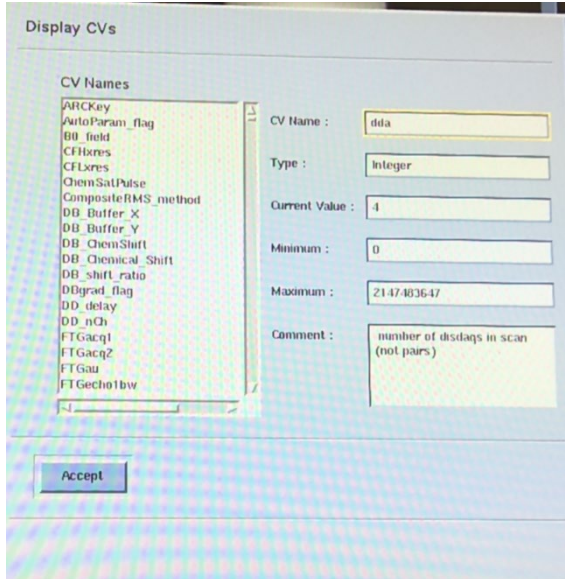

Figure 38. Editing Research CVs for AX THERM scan.
8. In the new window that appears (Figure 38), type 'dda' (all lowercase) next to **CV Name**, set the **Current Value** to **0**, and then click **Accept**.